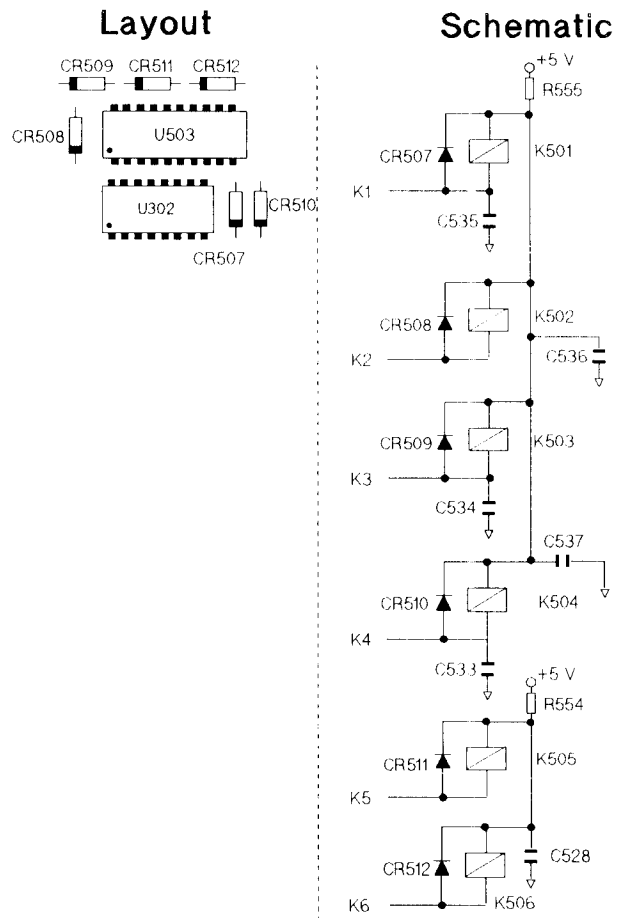

Figure B-8. CR507
4. Figure B-8 shows the location of CR507 - 512 in the circuit and on the main board. Modify Figure 10.4-4 and Figure 10.4-8 accordingly.